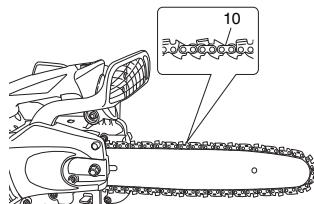

Fig. 5
- Confirm the direction of saw chain (10) is correct as in the figure, and align the chain on the sprocket. (**Fig. 5**)